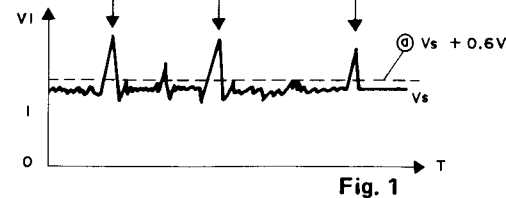

Fig. 1
- 2) When the arm passes the inter-tune, the incident amount of light is increased, but the time constant T is smaller than R169 · C229, so the waveform as V1 shown in Fig. 1 is obtained.